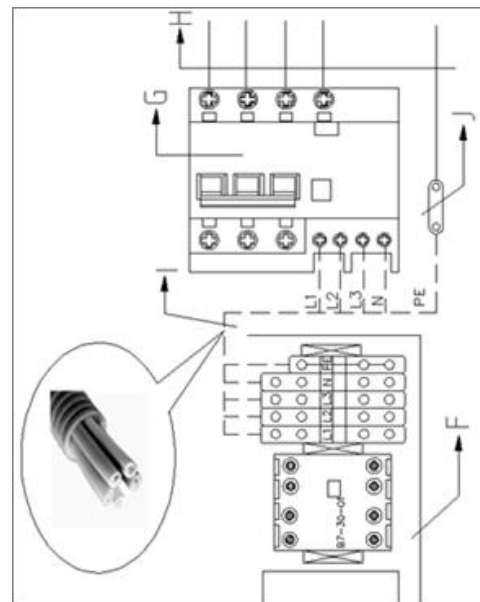

Figure 10 380-415V 3P+N
Connect the power supply as shown in Figure 10: Use the supplied power supply cables (I) (refer to technical data sheet). Connect the 3-phase cable "L1,L2,L3,N" to the residual leakage circuit-breaker (G) which should be supplied by the customer. Connect the PE to the customer's ground terminal.